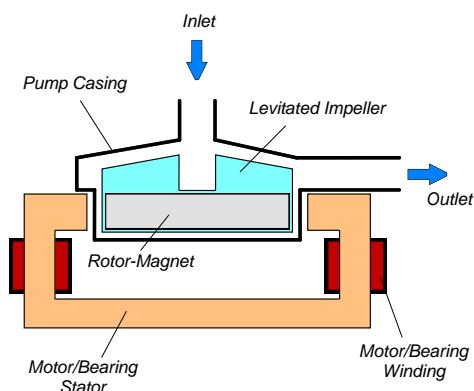
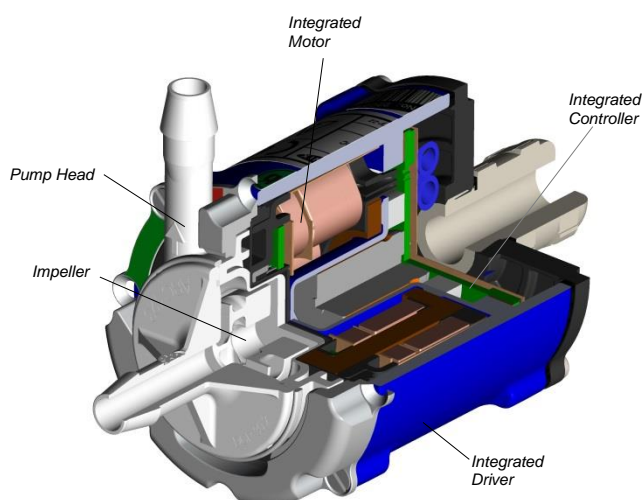
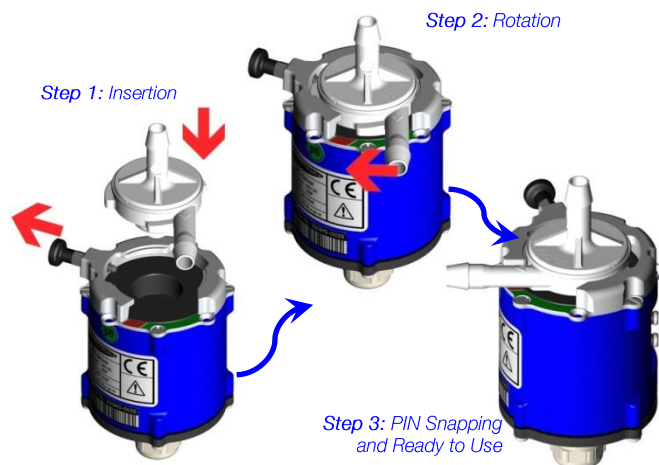

Figure 1: Schematic of the main elements of the MagLev centrifugal pump
Figure 2: Integrated MagLev pump driver with pump head
Figure 6: Intuitive 3-step pump head mounting procedure with bayonet type socket (PHS-i30.1)
Levitronix® has developed a revolutionary pump that has no bearings to wear out or seals to break. Based on the principles of magnetic levitation, the pump's impeller is suspended, contact-free, inside a sealed casing and is driven by the magnetic field of the motor (Figure 1). The impeller and casing are both fabricated from biocompatible (FDA, USP-VI, BSE/TSE and Animal free) gamma sterilizable polypropylene (PP) and together they make up the disposable pump head. A simple and intuitive exchange of the single use pump head is achieved with a bayonet socket type mounting procedure (see Figure 6). Flow rate or pressure is precisely controlled by electronically regulating the rotor speed, which eliminates any pulsation. With the lack of mechanical bearings plus the self-contained pump head design, the risk of contamination is drastically reduced. The absence of narrow gaps between the impeller and pump casing, plus the low-shear pump design allows the gentle pumping of sensitive liquids. The pump head can be easily inserted and removed with an intuitive bayonet socket. The controller and the motor are integrated into the driver housing (see Figure 2), hence cabling effort is reduced.
- Bayonet socket design for easy and intuitive exchange of disposable pump head (see Figure 6).